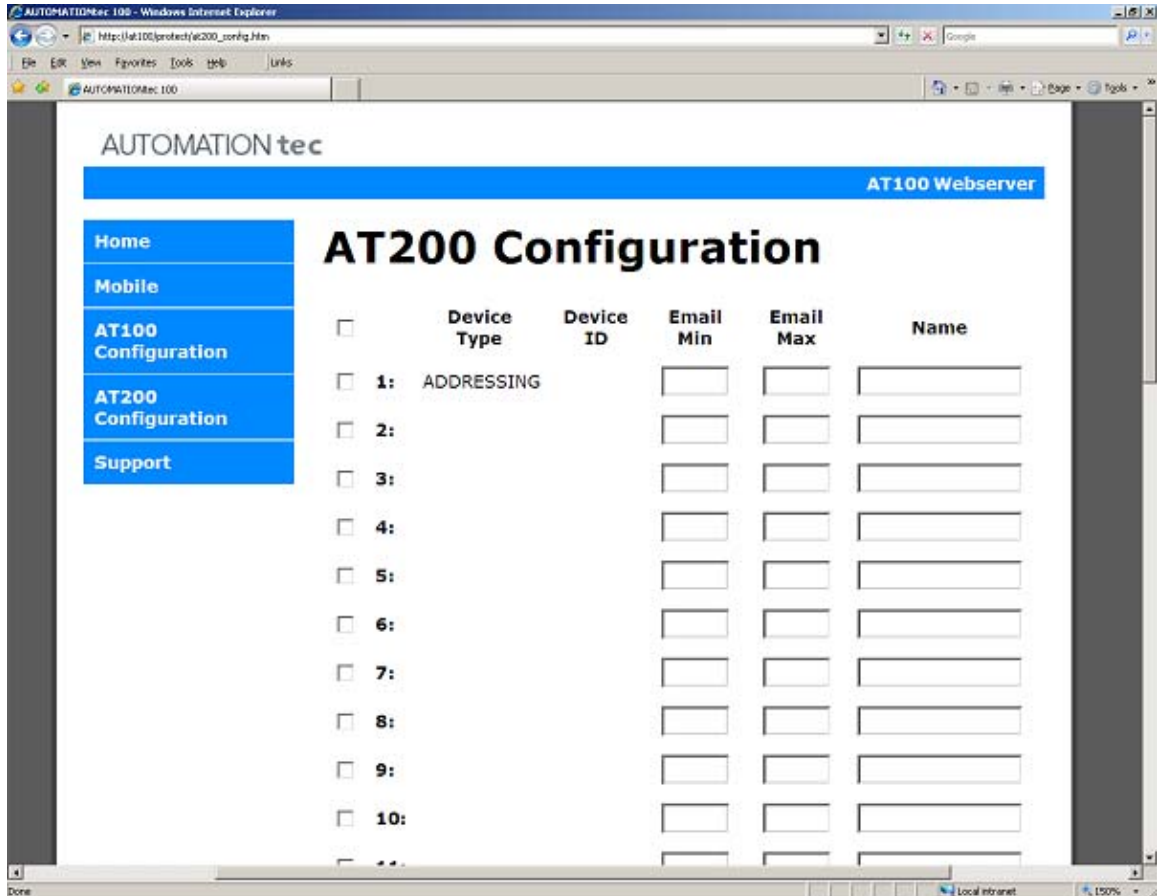

Fig 5
3. The page will refresh and the page will indicate the AT100 is ready to learn a new AT200. (Fig 5)